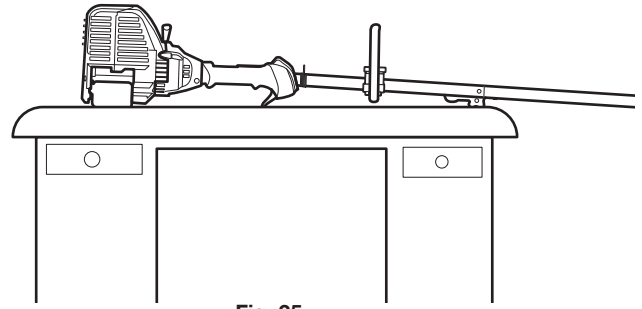

Fig. 25
2. **Set the unit on a flat, level surface**, such as a workbench or table. The cutting head shield should hang over the edge so that the engine is level (Fig. 25).